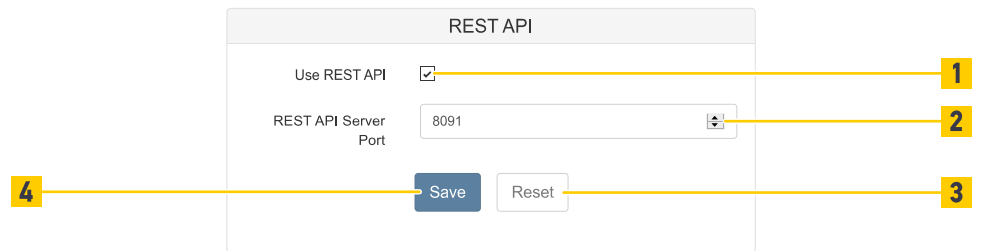

Fig. 118: REST API
If Use REST API is activated (Fig. 118 /1), a server can pull the device to send data.
- Set the REST API Server Port (Fig. 118 /2).
- To go back to the last saved settings click the Reset button (Fig. 118 /3).
- To save all the settings in the device click the Save button (Fig. 118 /4).